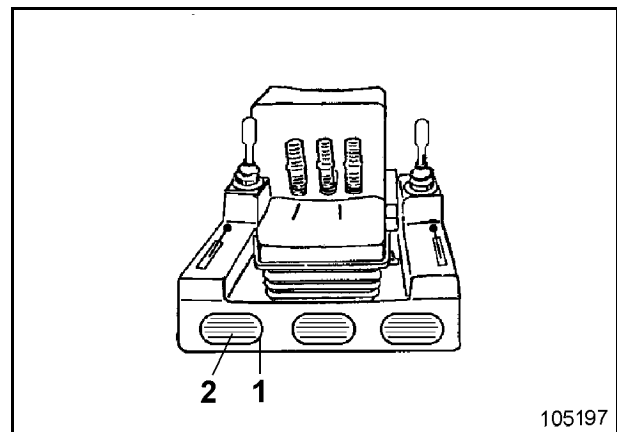

Fig. 3-145:
- ➔ Remove cover (1, Fig. 3-145):-
- ➔ Change filter mats (2)
- ➔ Fasten cover (1) again.